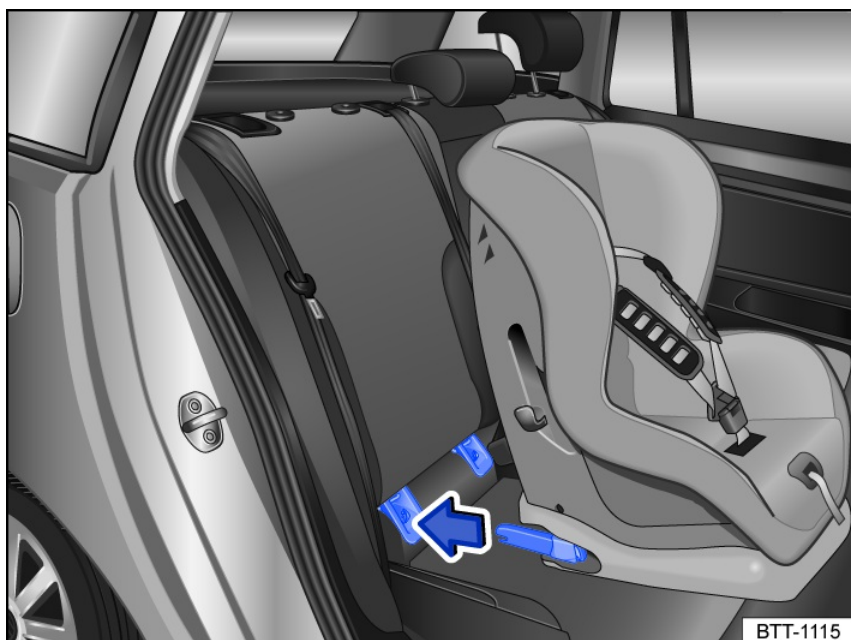

Fig. 42 General example: fitting a child restraint with attachment arms.
- Push the child restraint attachment arms in the direction of the arrow onto the anchors *fig. 42*. The child restraint must engage securely and audibly.